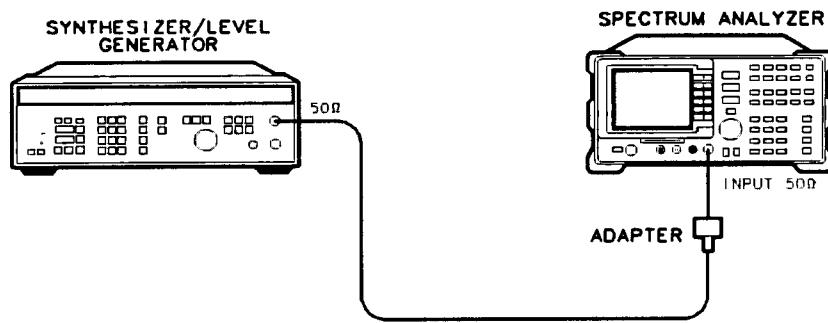

Figure 3-17. Frequency Response Test Setup (<50 MHz)
17. Using a cable, connect the HP 3335A directly to the INPUT 50Ω . Refer to Figure 3-17.